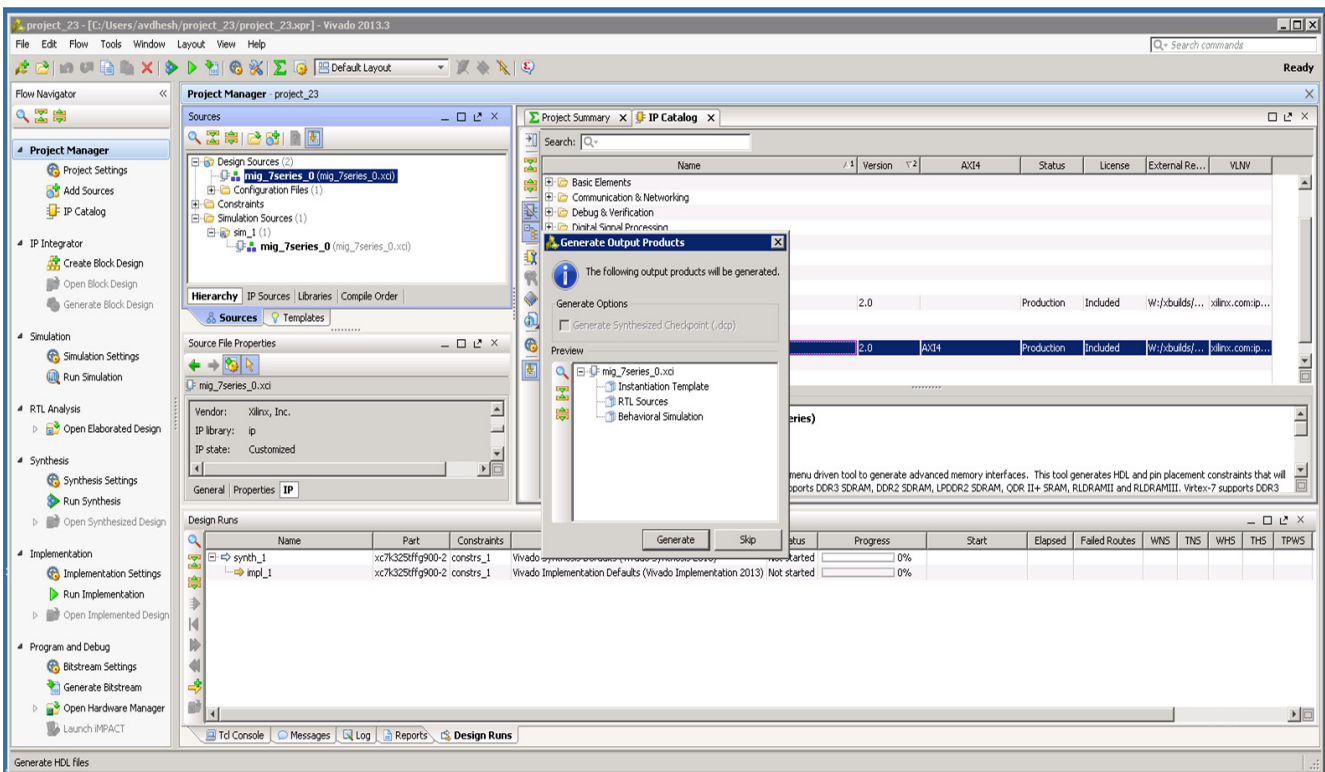

Figure 2-33: Generate Window
7. Clicking the **Generate Output Products** option brings up the Manage Outputs window (Figure 2-33).